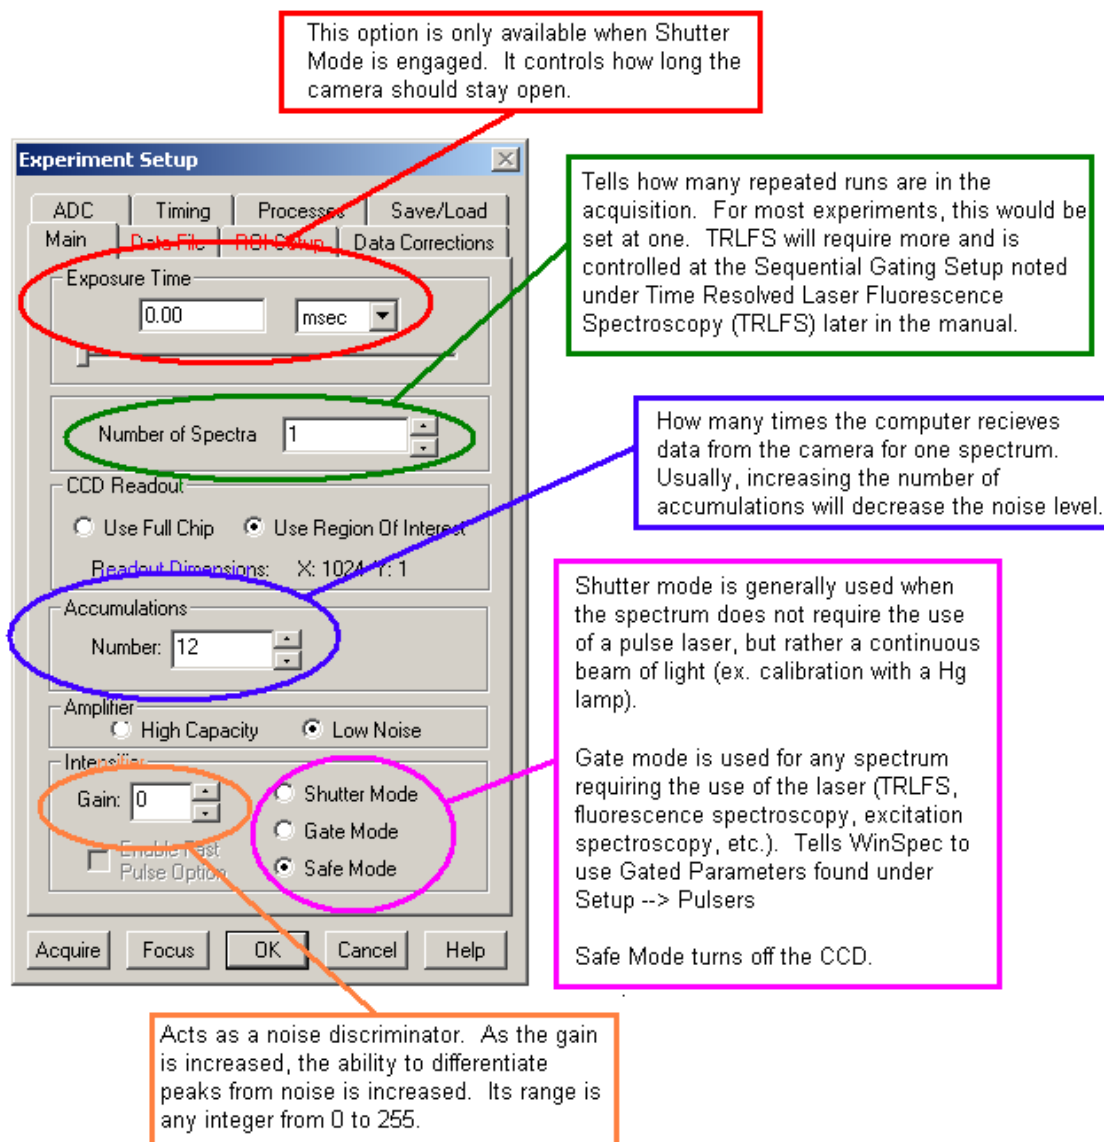
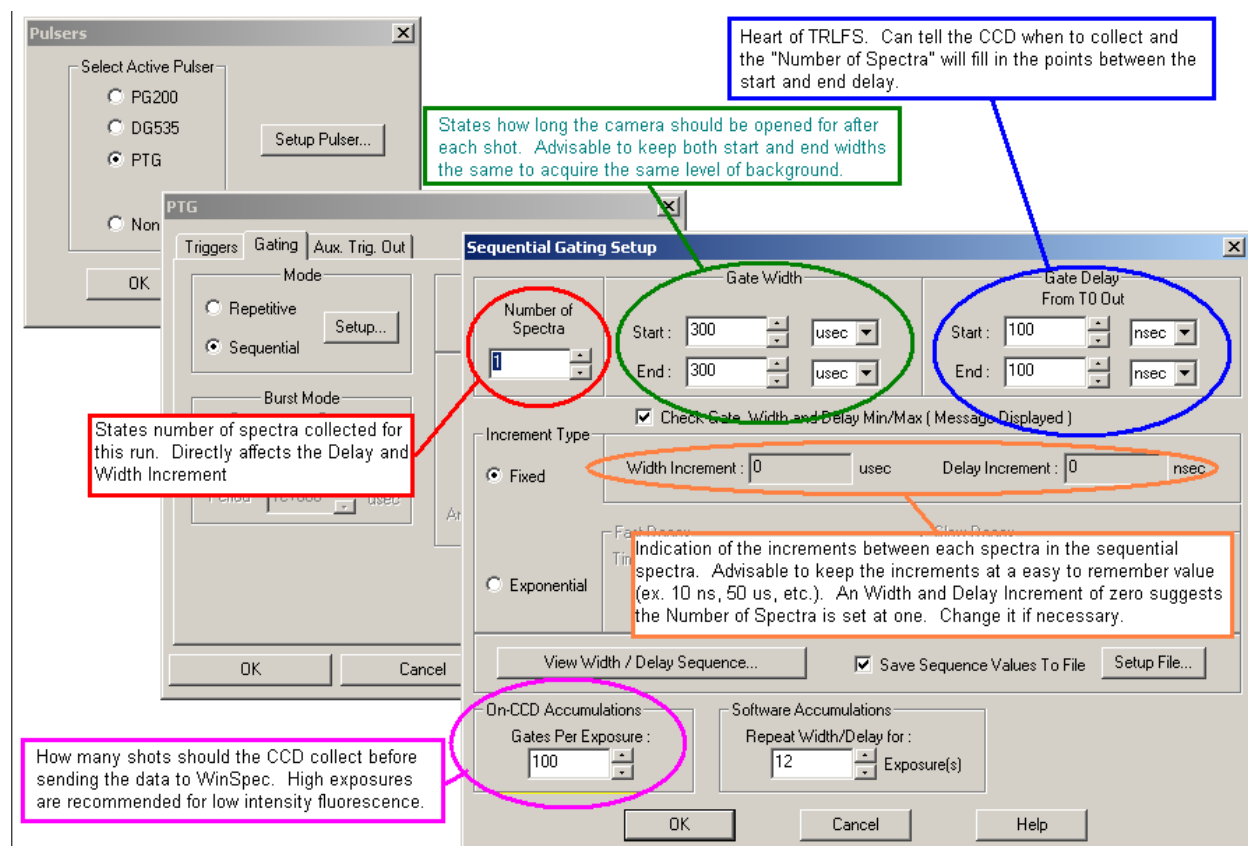

Figure 22: Experimental Setup Menu.
Figure 26: Picture of Pulser setup in Sequential Mode, generally used for TRLFS.
Experimental Setup dictates how the computer collects data from the CCD. (See Figure 22)
Note: Be sure to reset the Number of Spectra in the Experimental Section (see Fig. 22) to one (1) if you revert from TRLFS to a fluorescence spectrum. (Ex. If you do a TRLFS for 24 spectra (which you typed 24 in the “Number of Spectra” in the Sequential Gating Setup (see Figure 26), then decide to do a single fluorescence spectrum, be sure to reset the “Number of Spectra” in the “Experimental Setup” back to one (see Figure 22). Otherwise, when acquiring for the single fluorescence spectrum, you will be running it for 24 spectra instead of one.)